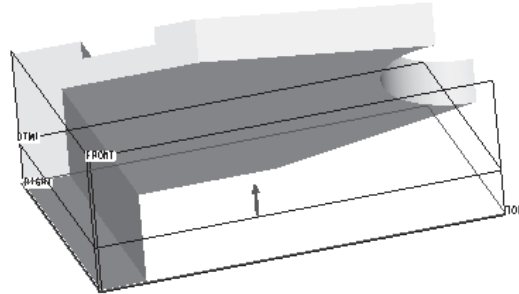

Figure 4-89 Arrow showing the direction of feature creation
Datum plane **DTM1** is created as shown in Figure 4-89 and will be selected as the sketching plane for creating the sketch. A red arrow is attached to **DTM1** that shows the direction where the feature will be created with respect to the datum plane.
8. Select **Flip** and then choose **Okay** from the **DIRECTION** submenu. The arrow should point in the direction shown in Figure 4-89.